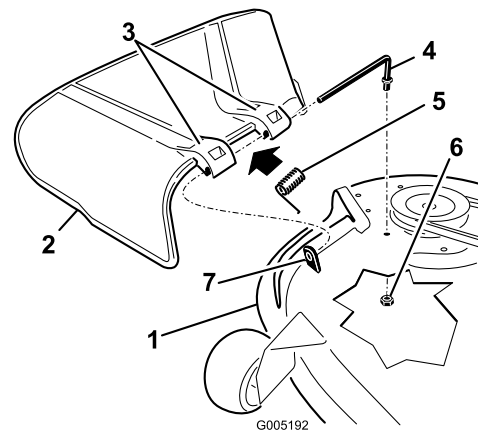

Figure 55
1. Locate items shown in Figure 55.
2. Remove the nut (3/8 inch) from the rod under the mower (Figure 55).
3. Slide the rod out of the short stand-off, internal lock washer, spring, and grass deflector (Figure 55). Remove the damaged or worn grass deflector.
4. Replace the grass deflector and internal lock washer (Figure 55).
6. Place the spring on the rod, with end wires down, and between the grass deflector brackets. Slide rod through second grass deflector bracket and internal lock washer (Figure 55).
7. Insert rod at front of grass deflector into short stand-off on deck. Secure rear end of rod into the mower with a nut (3/8 inch) (Figure 55).